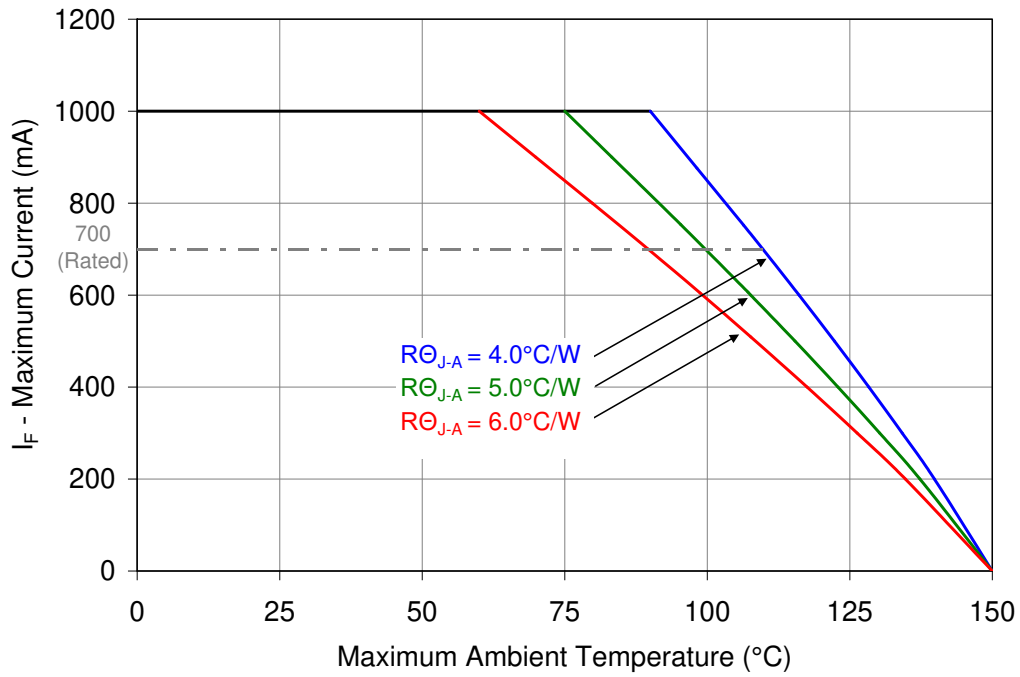

Figure 11: Maximum forward current vs. ambient temperature based on  $T_{J(\text{MAX})} = 150^{\circ}\text{C}$ .
- Maximum DC forward current (per die) is determined by the overall thermal resistance and ambient temperature. Follow the curves in Figure 11 for current derating.
Notes for Figure 11: